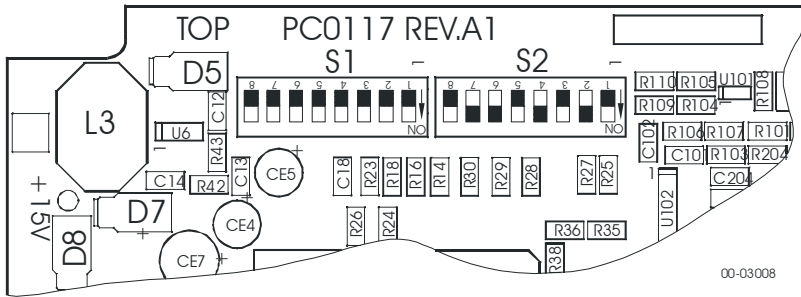

Figure 2-1 Location of Dip Switches on AX-8 PCB
2. Set the DIP switches on the PCB (see *Figure 2-1*) as shown in *Tables 2-1* and *2-2* below.